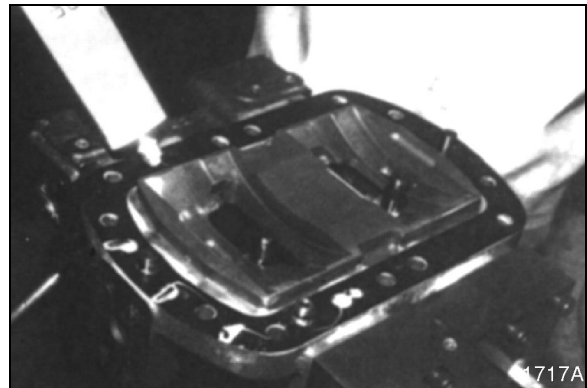

Figure 123
19. Apply Three-Bond 1215 to gasket. See Figure 123.